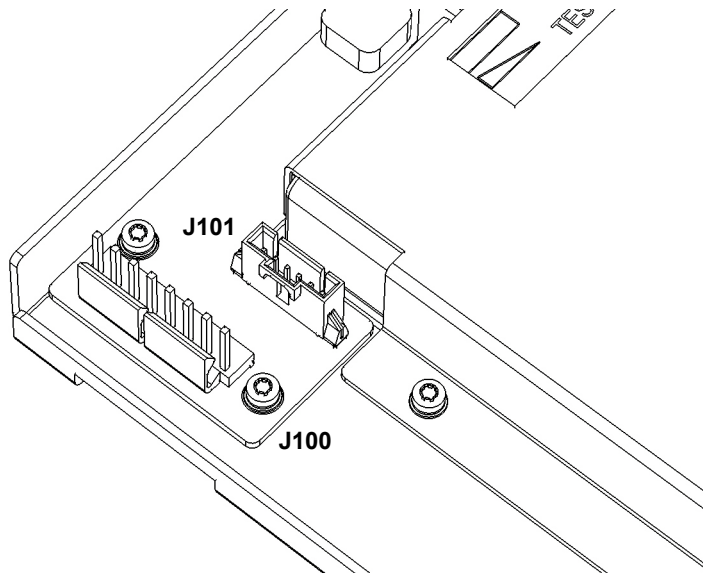

Figure 4-5. Battery Assembly Connectors
- 8 Set the Battery assembly on its back on the right-hand side of the chassis and insert the three small plastic tabs on the chassis into the three slots on the assembly deck. Now, first connect the digital cable (just installed) to the battery charger assembly 6-pin (J101) PC board connector. Next, connect the 8-pin cable to (J100). (See Figure 4-5.)